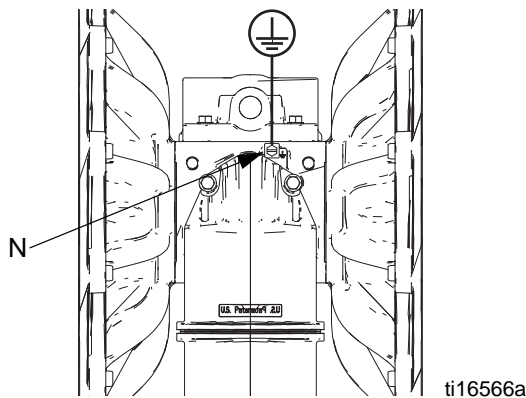

Fig. 3. Grounding screw and wire
- N Ground screw (Aluminum and stainless steel only, see FIG. 3, page 10)
Pump: See FIG. 3. Loosen the ground screw (N). Insert one end of a 12 ga. minimum ground wire behind the ground screw and tighten the screw securely. Connect the clamp end of the ground wire to a true earth ground. A ground wire and clamp, Part 819.0157, is available.